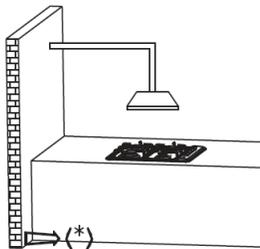
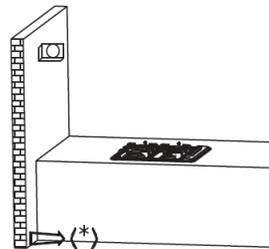

Fig.2
Fig.3
**NOTE:** The use of a gas cooking appliance results in the production of heat and moisture in the room in which it is installed. Always ensure that the kitchen is well ventilated; keep natural ventilation holes open or install a mechanical ventilation device (Fig. 2). In particular, when using the grill or more than one hotplate burner, open a window if a mechanical ventilation device is not operating (Fig. 3).